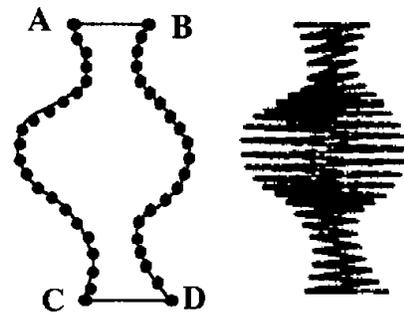

Figure 5-32
Another type of curve smoothing column digitizing is to define a side or sides using multiple Mk4s. The sample in Figure 5-32 illustrates this technique.
1. Refer to the Figure 5-32 and enter a Mk1 at point A and a Mk2 at point B to initiate the column.
The result of the above digitizing will yield a design similar to the one on the left in Figure 5-32.